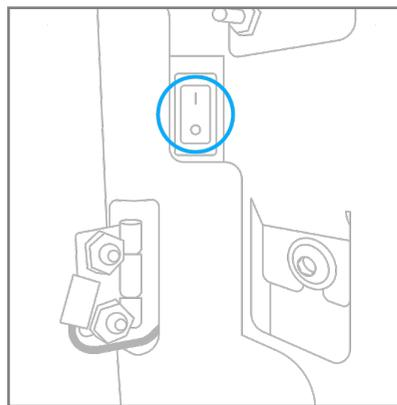

Figure 21.
Step 11: Turn the power switch to the "ON" position (I) (Figure 21.).